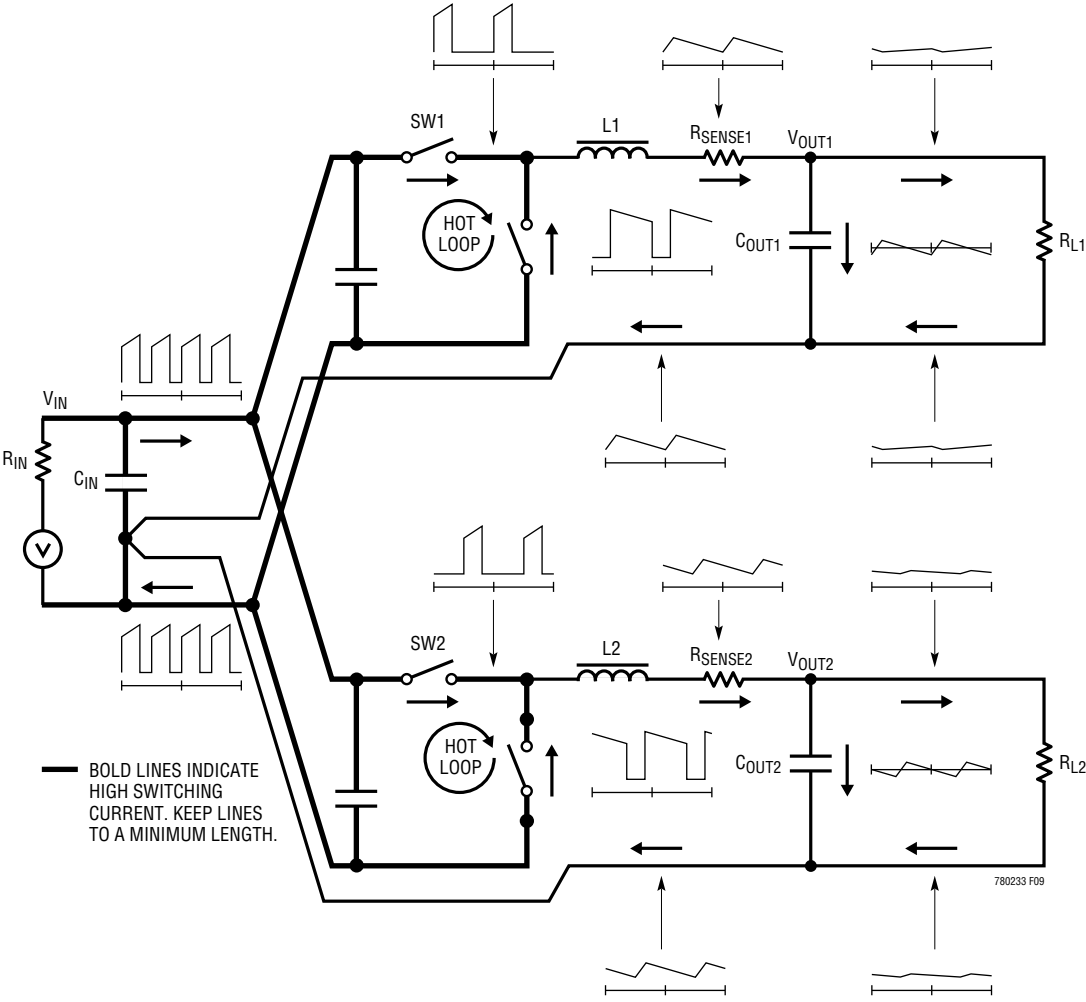

Figure 8. Branch Current Waveforms
When laying out the printed circuit board, the following checklist should be used to ensure proper operation of the IC. Figure 8 illustrates the current waveforms present in the various branches of the synchronous regulators operating in the continuous mode. Check the following in your layout:
- Are the signal and power grounds kept separate? The combined IC ground pin and the ground return of $C_{INTV_{CC}}$ must return to the combined C_{OUT} (-) terminals. The area of the “hot loop” formed by the top N-channel MOSFET, bottom N-channel MOSFET and the high frequency (ceramic) input capacitors, as shown in Figure 8, should be minimized with short leads, planar connections, and multiple paralleled vias where needed. The output capacitor (-) terminals should be connected as close as possible to the (-) terminals of the input capacitor.